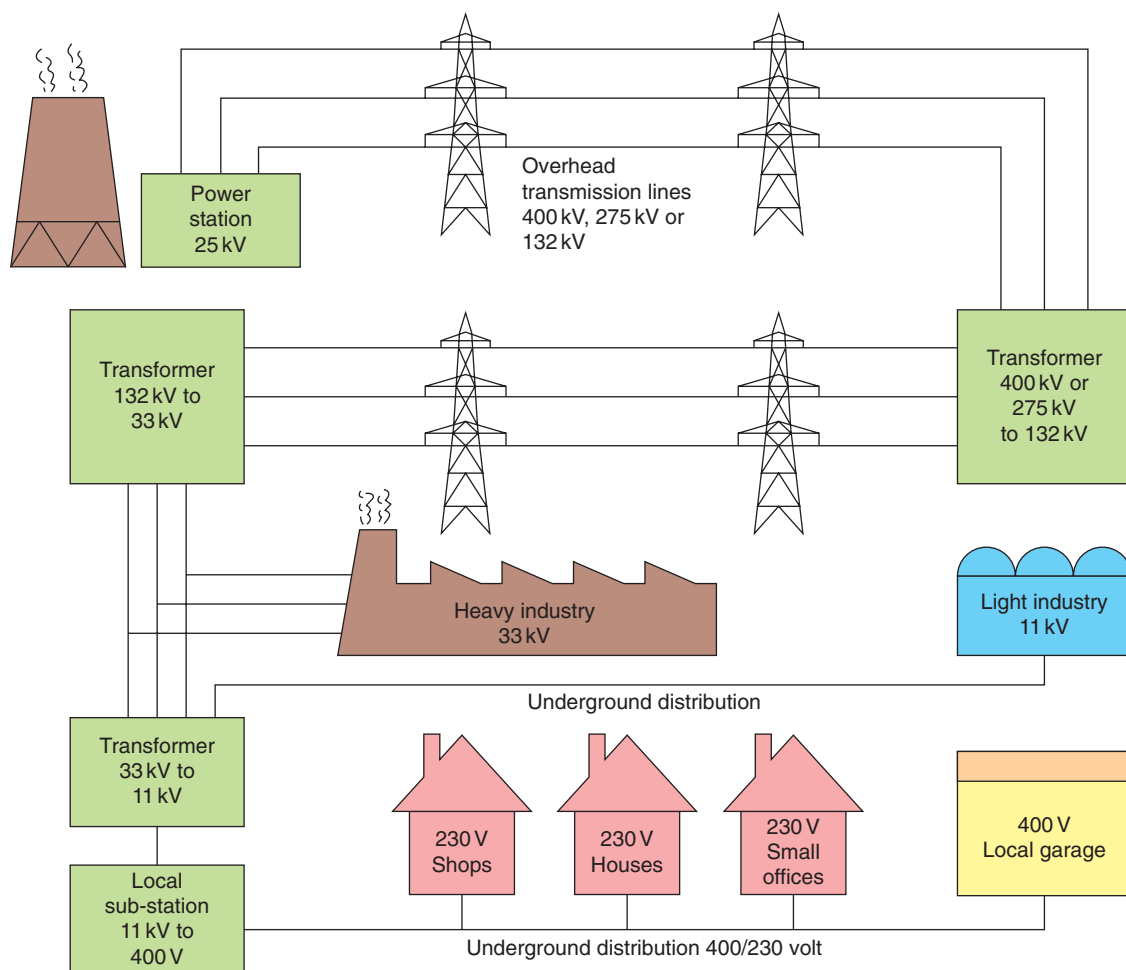

FIGURE 2.9
- Fig. 2.9 below shows a simplified diagram of electricity distribution.